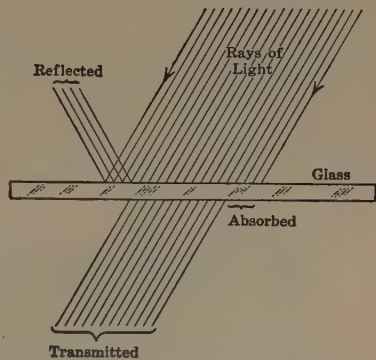

FIG. 223.—Glass does not transmit all the light that falls on it.
**What becomes of light?** When a beam of light meets any kind of matter three things may happen to it. It may be *reflected*, *transmitted*, or *absorbed*. When light comes to clear glass most of it is transmitted, as is shown in Fig. 223. That which is absorbed is changed to heat. All substances reflect some light and absorb some. Highly polished surfaces and mirrors reflect much more than dull, black surfaces do. Non-luminous bodies are seen only by the light which they reflect. Thin paper and oiled paper, which transmit enough light to permit bodies to be seen indistinctly through them, are called *translucent* or *semi-transparent* bodies. Glass, clear mica, and pure water transmit a large amount of light and permit objects to be seen distinctly through them. They are *transparent*. Iron, wood, earth, and brick do not allow light to pass through them. Such bodies